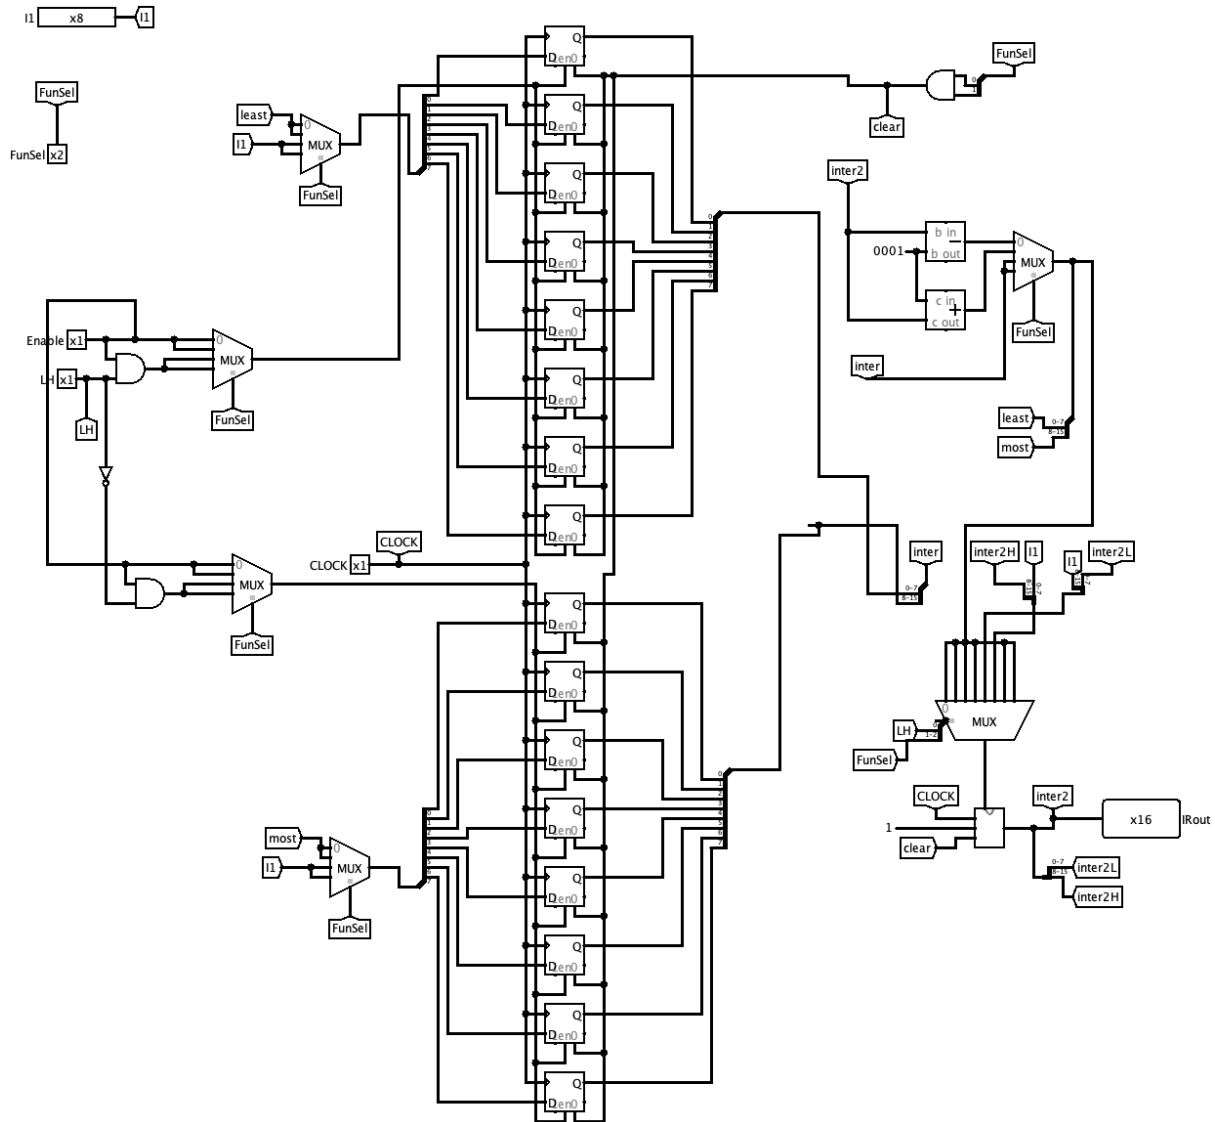

Figure 2: Logisim Circuit For Part-1b
The 16-bit register has increment,decrement, clear, load and load to most significant 8 bit or least significant 8 bit functionalities that are controlled by 2-bit control signals (FunSel), an enable input (E) and L/H signals is implemented as shown in the Figure 2.